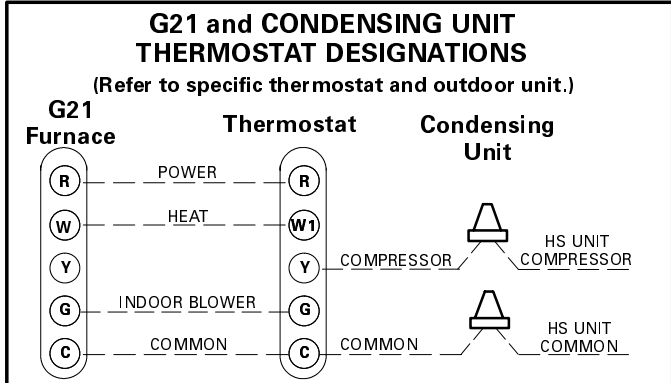

FIGURE 20
- 3 – Install the room thermostat according to instructions provided with the thermostat. See figure 20 for thermostat designations.